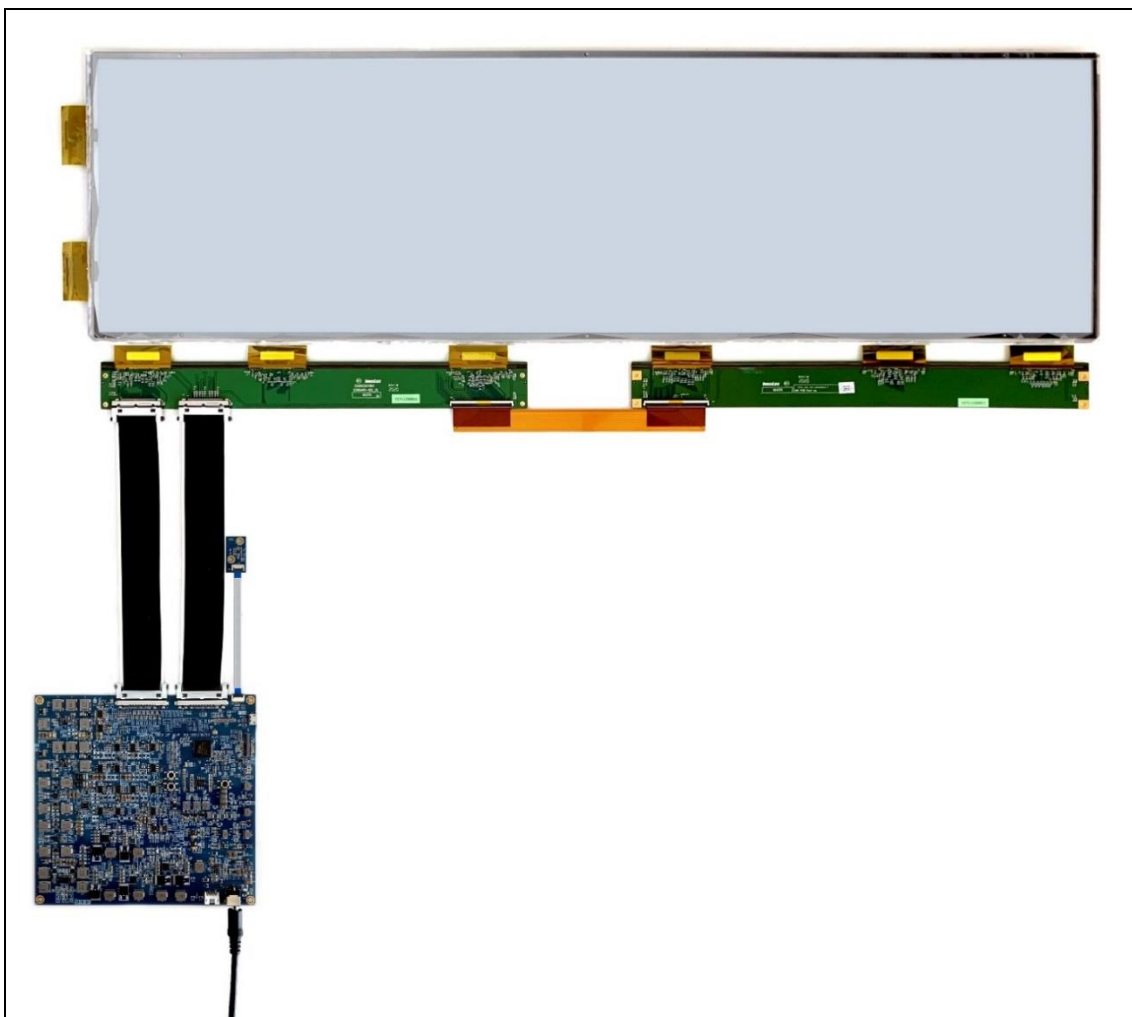

Figure 2.1
Connect the Luvia evaluation board with 28" ePaper display is shown as following figure 2.1.
- A. Connect the 28-inch ePaper display to the Luvia evaluation kit (refer to Figure 2.1)